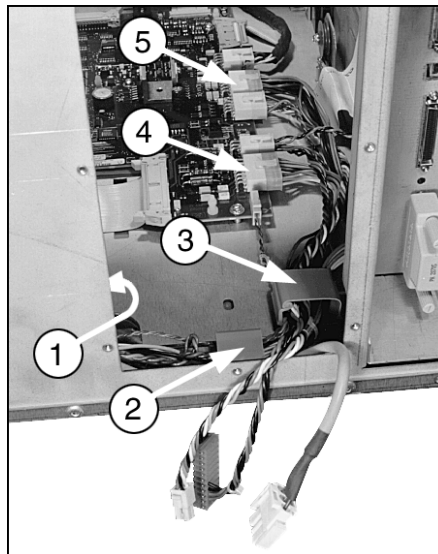

Figure 5-9. 12-Volt Cable Connections to the Controller PCA
7. (See Figure 5-9) Reach through the rear opening made by the 24-volt module just removed and open the power supply cable clip on the rear chassis wall (1) and the two clips on the chassis bottom (2) and (3).
8. Disconnect the 14- and 12-wire connectors from the edge of the controller PCA. See Figure 5-9 (4) and (5).